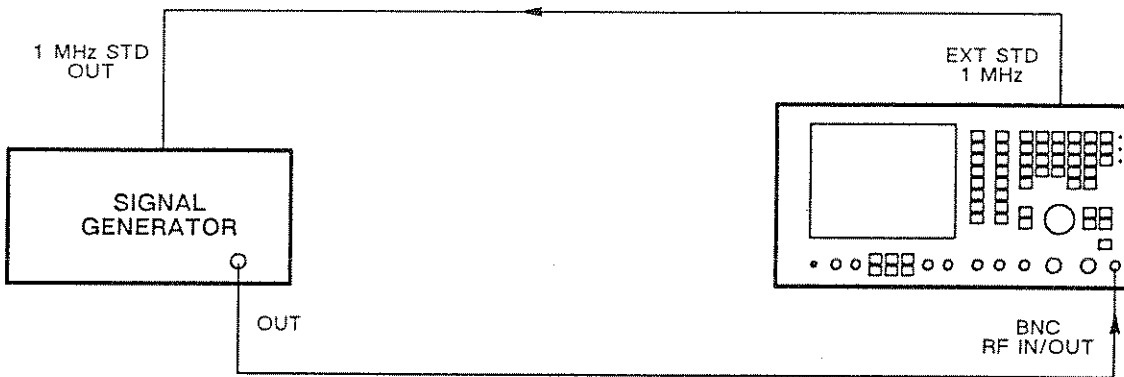

Fig. 6-9 Test equipment connections for RF frequency meter frequency
- (1) Connect the signal generator 1 MHz standard output to the EXT STD 1 MHz socket. Connect the signal generator variable output to the RF IN/OUT BNC socket. See Fig. 6-9.
- (2) On the 2955B, set the MODE to TRANSMITTER TEST and RF IN/OUT socket to BNC.
- (3) Set the signal generator carrier frequency to 1000 MHz, level to 7 dBm and modulation to off.
- (4) Check that the TX FREQ reading is the same as the signal generator setting ± 1 digit.
- (5) Repeat (3) and (4) at other frequencies between 1.5 and 1000 MHz.